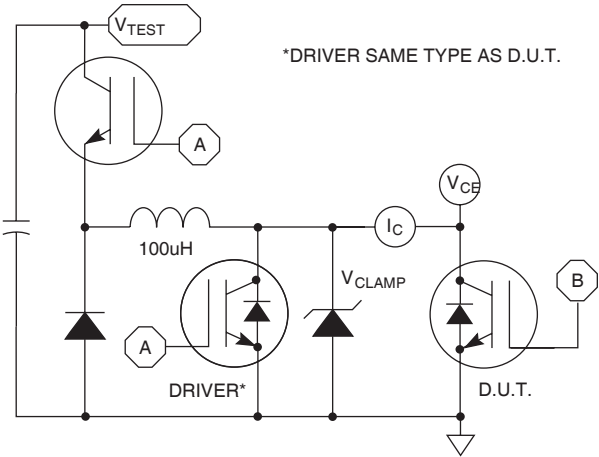

Figure 24, E_{ON1} Test Circuit
- ① Repetitive Rating: Pulse width limited by maximum junction temperature.
- ② For Combi devices, I_{ces} includes both IGBT and FRED leakages
- ③ See MIL-STD-750 Method 3471.
- ④ E_{on1} is the clamped inductive turn-on energy of the IGBT only, without the effect of a commutating diode reverse recovery current adding to the IGBT turn-on loss. (See Figure 24.)